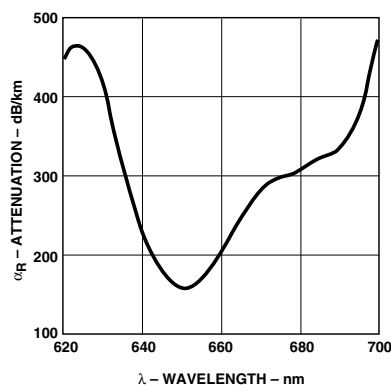

Figure 1. Typical POF attenuation vs. wavelength.
7. Note that  $\alpha_R$  rises at the rate of about  $0.0067$  dB/°C, where the thermal rise refers to the LED temperature changes above  $25^\circ\text{C}$ . Please refer to Figure 1 which shows the typical plastic optical fiber attenuation versus wavelength at  $25^\circ\text{C}$ .